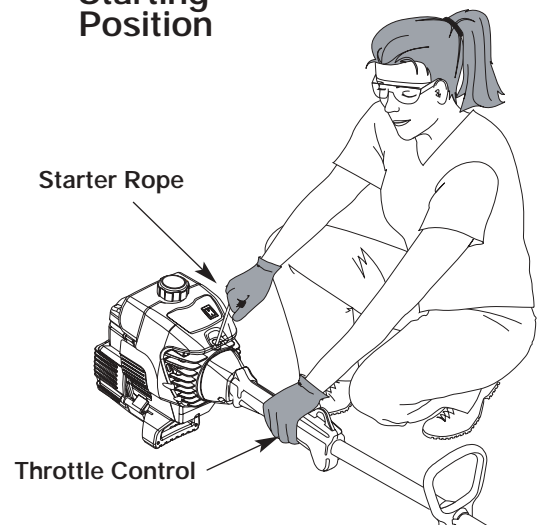

Fig. 8
WARNING: Avoid accidental starting. Make sure you are in the starting position when pulling the starter rope (Fig. 8). To avoid serious injury, the operator and unit must be in a stable position while starting.
5. Crouch in the starting position (Fig. 8) and squeeze the throttle control. Pull the starter rope out with a **controlled and steady motion** 5 times.